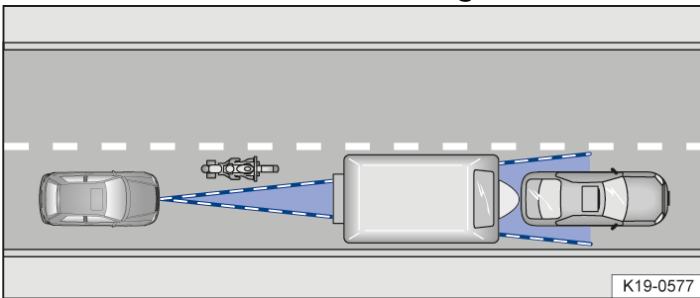

Fig. 3 Narrow vehicle.
- Vehicles that are driving outside the sensor range in close proximity to your vehicle, e.g. motorbikes → *Fig. 3*.